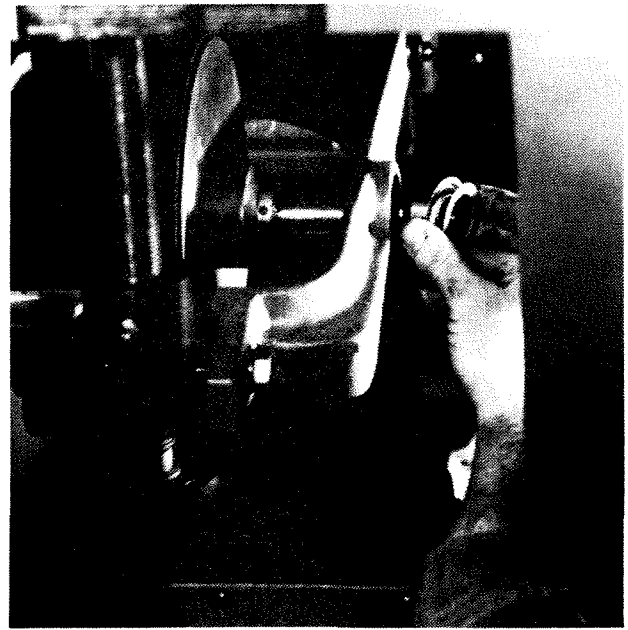

Figure 3.23 - Countershaft Bearing and Spacer Removal
23. Remove the bearing and spacer, as shown in Figure 3.23 .